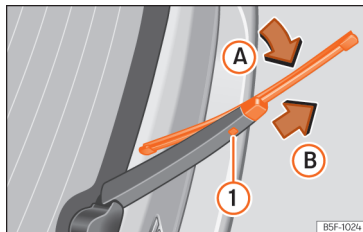

Fig. 160 Changing the rear wiper blade
- Rotate the blade lightly >>> Fig. 160 (arrow A).
- Hold down the release button ① while gently pulling the blade in the direction of arrow B.
- Insert a new blade of the **same length and type** in the rear wiper arm in the opposite direction to the arrow B until button ① hooks into place.